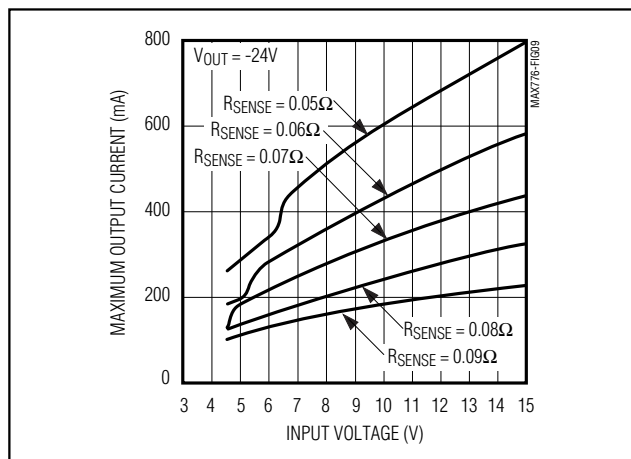

Figure 9. MAX774/MAX775/MAX776 Maximum Output Current vs. Input Voltage ($V_{OUT} = -24V$)
- 2) Next, referring to Figure 9, find the curve with the lowest current limit whose output current (with the lowest input voltage) meets your requirements.
The $R_{SENSE} = 80m\Omega$ (Figure 9) shows only approximately 125mA of output current with a 4V input, so we look next at the $R_{SENSE} = 70m\Omega$ line. It shows $I_{OUT} >150mA$ for $V_+ = 4V$ and $V_{OUT} = -24V$. The current limit will be $0.210V / 0.070\Omega = 3A$. These curves take into account worst-case inductor ($\pm 10\%$) and current-sense trip levels, but not sense-resistor tolerance. The switch on resistance is $70m\Omega$.